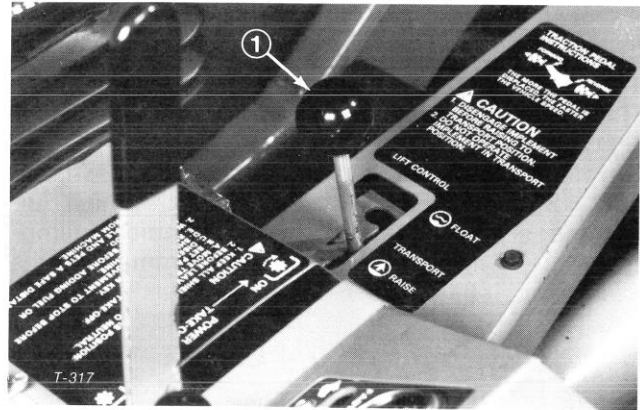
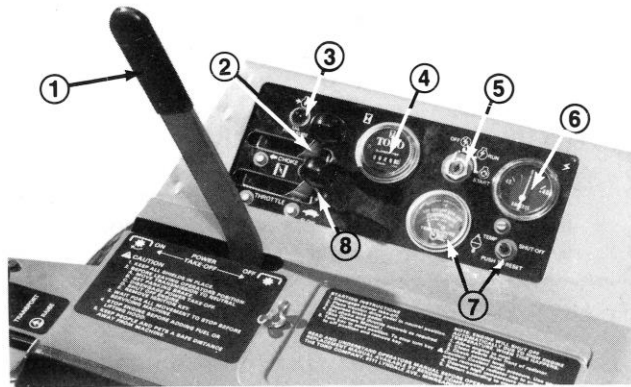

Figure 19
Figure 20
Lift Lever (Fig 19) — The hydraulic lift lever has three positions; FLOAT, TRANSPORT and RAISE. To lower implement to the ground, move lift lever forward into notch, which is the FLOAT position. The FLOAT position is used for operation and also when machine is not in operation. To raise implement, pull lift lever backward to the RAISE position. After implement is raised, allow lift lever to move to the TRANSPORT position. Normally, implement should be raised when driving from one work area to another, except when descending steep slopes.
PTO Lever (Fig. 20) — The PTO lever has two positions; ON, engage and OFF, disengage. Slowly push PTO lever fully forward to ON position to start the implement or cutting unit blades. Slowly pull lever backward to OFF position to stop implement operation. The only time PTO lever should be in the ON position is when implement or cutting unit is down in operating position.
Oil Pressure Warning Light (Fig. 20) — The oil pressure warning light will glow and a buzzer will sound when oil pressure in engine drops below a safe level. If low oil pressure ever occurs, stop engine and determine the cause. Repair the damage before starting the engine again.
Hour Meter (Fig. 20) — The hour meter registers accumulated hours of engine operation. Use the hour meter to determine intervals for service maintenance and lubrication.
Ammeter (Fig. 20) — Ammeter shows charge rate of the battery by the alternator. When engine is running, there usually is a slight charge, unless engine is idling slowly. Needle will point to 0 when battery is fully charged. By contrast, alternator is not charging the battery when needle points to (-) negative side of ammeter, and if this happens, repair the charging system to prevent discharge of the battery.
Temperature Switch/Gauge and Reset Button (Fig. 20) — The temperature switch/gauge registers the temperature of the coolant in the cooling system. If temperature of coolant gets too high the engine will shut off automatically. When this happens, rotate ignition key to OFF. Automatic shut-off of the engine usually results from debris on front of screen or radiator, which reduces air flow. After cleaning outside of screen and radiator or repairing some other damage, press the reset button and start the engine.
Ignition Switch (Fig. 20) — The ignition switch, which is used to start and stop the engine, has three positions; OFF, RUN and START. Rotate
Choke (Fig. 20) — To start a cold engine, close carburetor choke by moving choke control fully forward. After engine starts, regulate choke to keep engine running smoothly. As soon as possible, open the choke by pulling it backward.
Throttle (Fig. 20) — Throttle is used to operate engine at various speeds. Moving throttle forward increases engine speed — FAST; backward decreases engine speed — SLOW. The throttle regulates the speed of the cutter blades or other implement components and, in conjunction with traction pedal, controls ground speed of the traction unit.
1. Insure parking brake is set, PTO lever is in OFF position (Fig. 20) and lift lever is in TRANSPORT or FLOAT position (Fig. 19). Remove foot from traction pedal and assure it is in neutral.
2. Move throttle control (Fig. 20) to SLOW position.
3. To start engine, move choke lever (Fig. 20) fully forward.
4. Insert key into ignition switch (Fig. 20) and rotate it clockwise to START position. Release key immediately when engine starts and regulate choke to keep engine running smoothly.